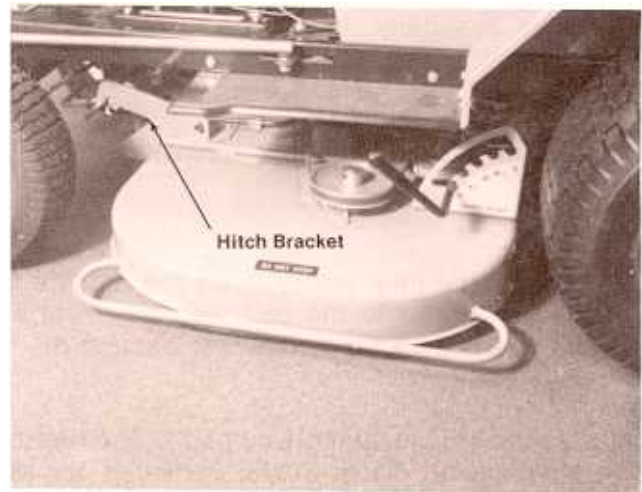

FIGURE 27.
4. Lift the front end of the cutting unit by the mower lift handle and move back slightly to disconnect the mower hitch rod from the hitch bracket and lower the cutting unit. See figures 27 and 28.